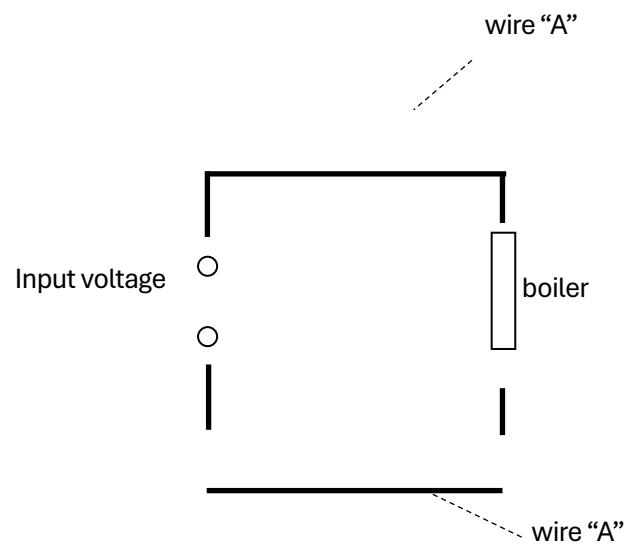

Fig. 7.3
- (e) A boiler, with resistance of $6.0 \text{ k}\Omega$ and rated at 5.4 MW is to be connected to two wire "A"s of length 1.00 m each as shown in Fig. 7.3 below.